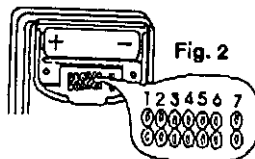

Fig. 2
- 2) Pin 7 sets sound option (as Fig. 2) When replace pin 7 to covered with clip, the chime will provide "Ding Ding" sound.